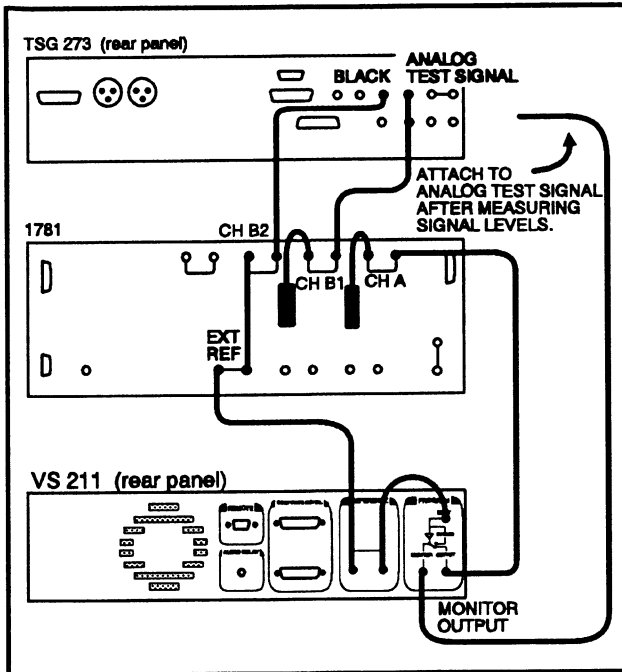

Fig. 4-16.
- a. Set-up the equipment as shown in Fig. 4-16.